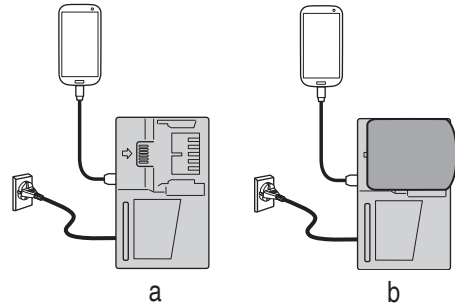

Fig. 7
- Charging a USB device from a electrical outlet. (**Fig. 7-a**)
- Charging a USB device and battery from a electrical outlet. (**Fig. 7-b**)